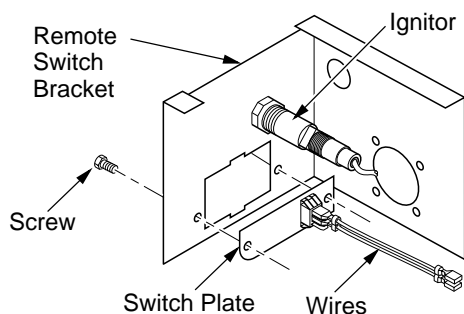

Figure 33 - Switch Plate and Wiring Harness
3. Remove switch plate (see Figure 33). Discard after removing.